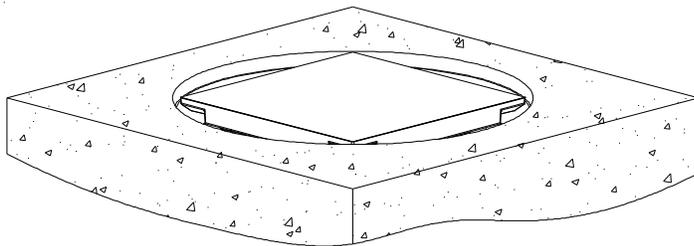

Fig. 9S
9. Turn head assembly clockwise until top of strainer is flush with the finished floor. See Fig. 9S